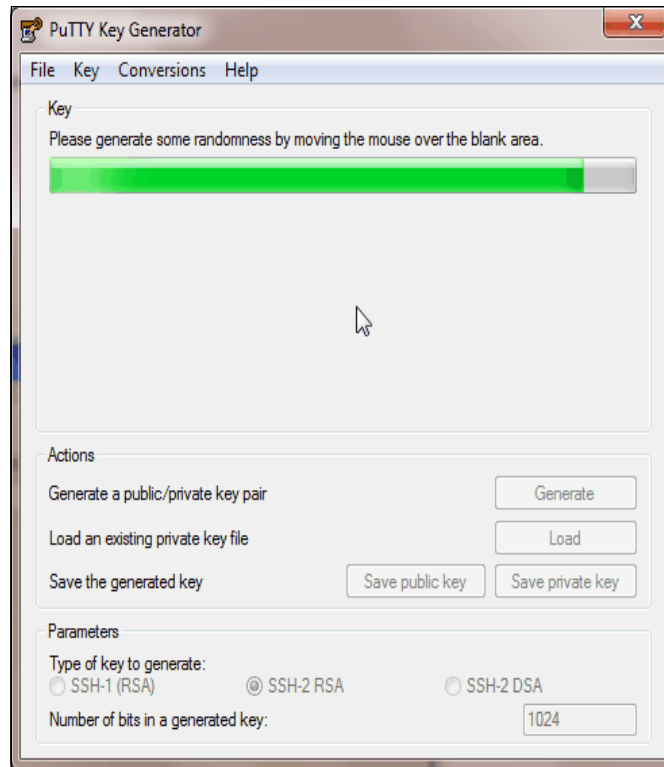

Figure A-2 Generate keys
2. Click **Generate** and move the cursor over the blank area to generate keys (Figure A-2).